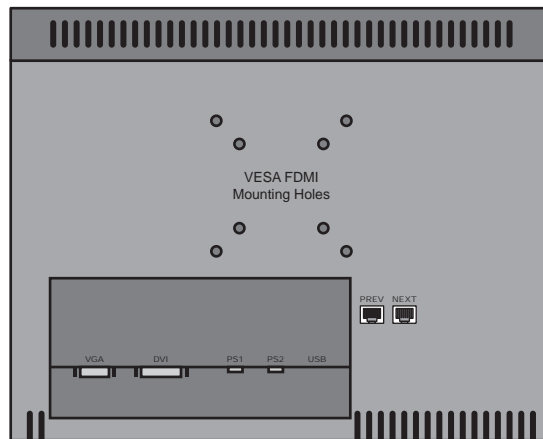

Figure 3.10 Control Panel to Touchscreen Display Cable Connections
1. Secure the **Touchscreen Display (Figure 3.10)** to the **VESA FDMI MIS-D 75 or 100, C Mounting Arm** using the **4 #6 screws (#850-013R)**, flat washers (**#960-010R**), and locking washers (**#960-023R**) provided with the Vision control panel Installation Kit and position the display as desired.